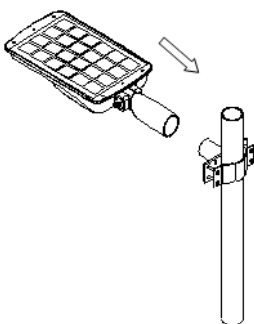

Fig 4
6. Slip the fitting over the bracket and tighten bolts to fix to bracket (fig 4 or 5)